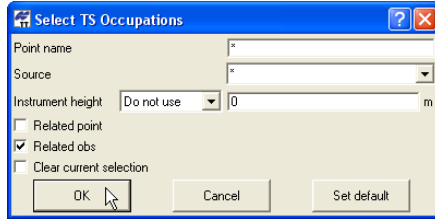

Figure 4-64. Select TS Occupations
On the *Select TS Occupations* dialog box, enter the following information and click **OK** (Figure 4-64 on page 4-67).
- Click **Set default** to apply the defaults shown in Figure 4-64.